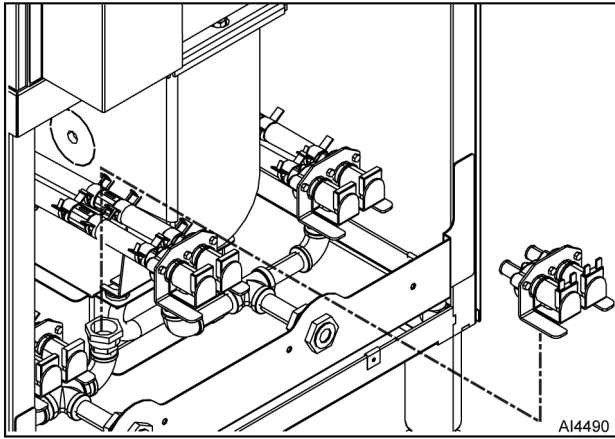

Fig. 54
7. Disconnect hoses from solenoid valve (Fig. 54).